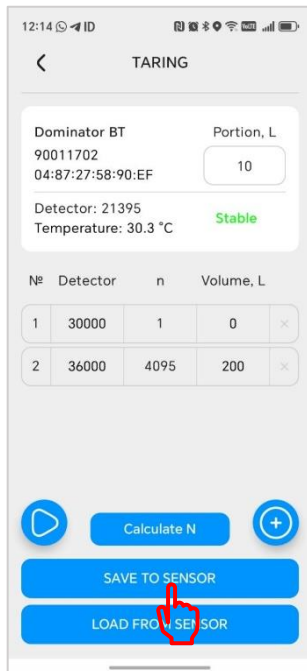

Fig. 5.13
6. After completing the calibration, it is important not to forget to press the "Save to sensor" button (Fig. 5.13). You will be asked to change the averaging time (Fig. 5.14).